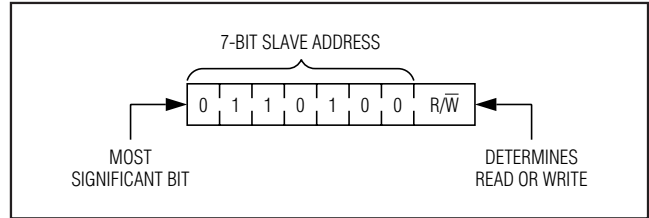

Figure 5. DS2741 Slave Address Byte
**Slave Address Byte:** Each slave on the I2C bus responds to a slave addressing byte sent immediately following a START condition. The slave address byte (Figure 5) contains the slave address in the most significant 7 bits and the R/W bit in the least significant bit.